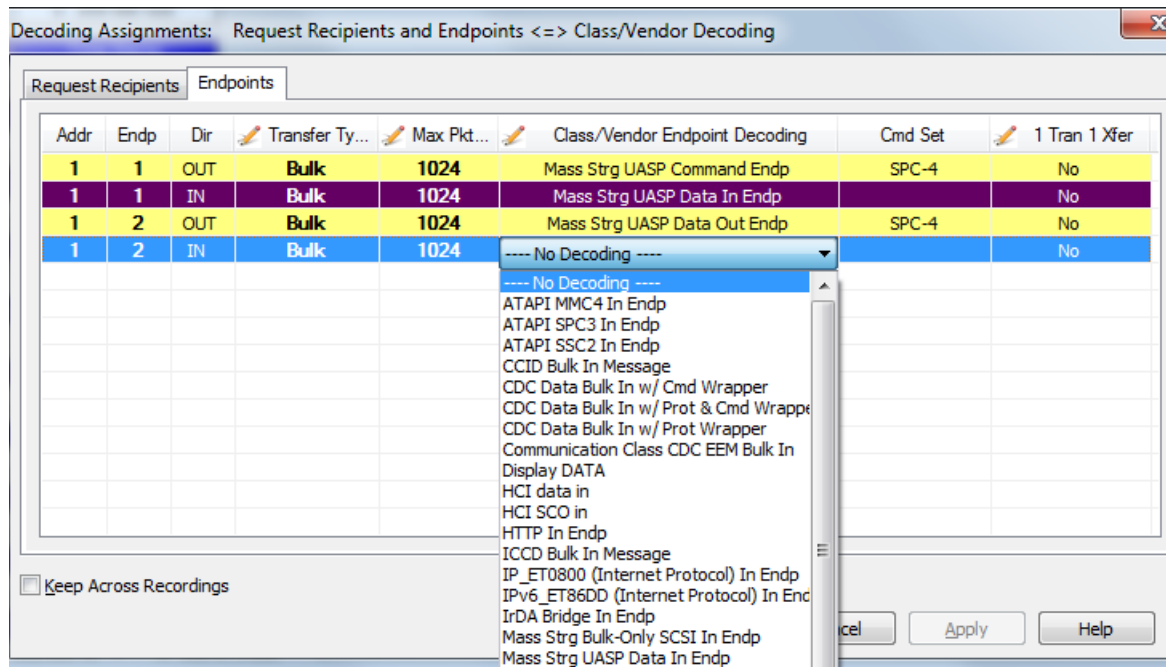

Figure 8.5: Class/Vendor Endpoint Decoding Drop-down Menu.
8. Display the **Class/Vendor Endpoint Decoding** drop-down menu (see Figure 8.5 on page 286):